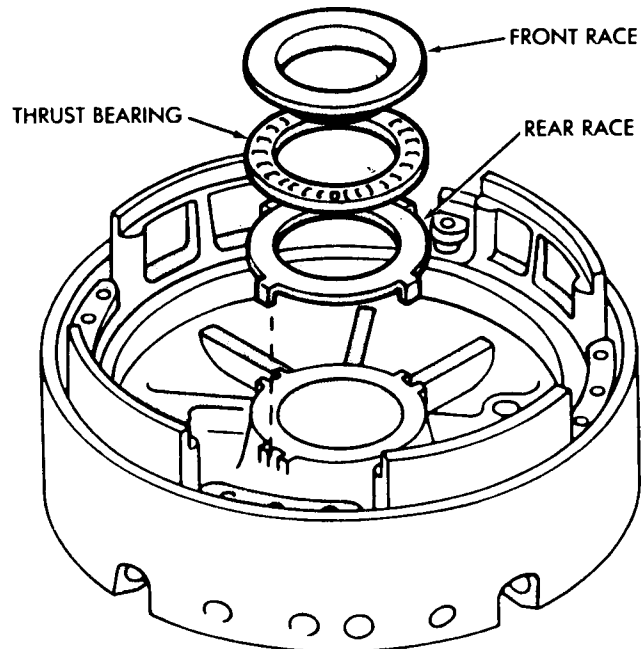

Fig. 3 Removing Support Thrust Bearing And Races
(3) Remove thrust bearing front race, thrust bearing and rear race (Fig. 3).